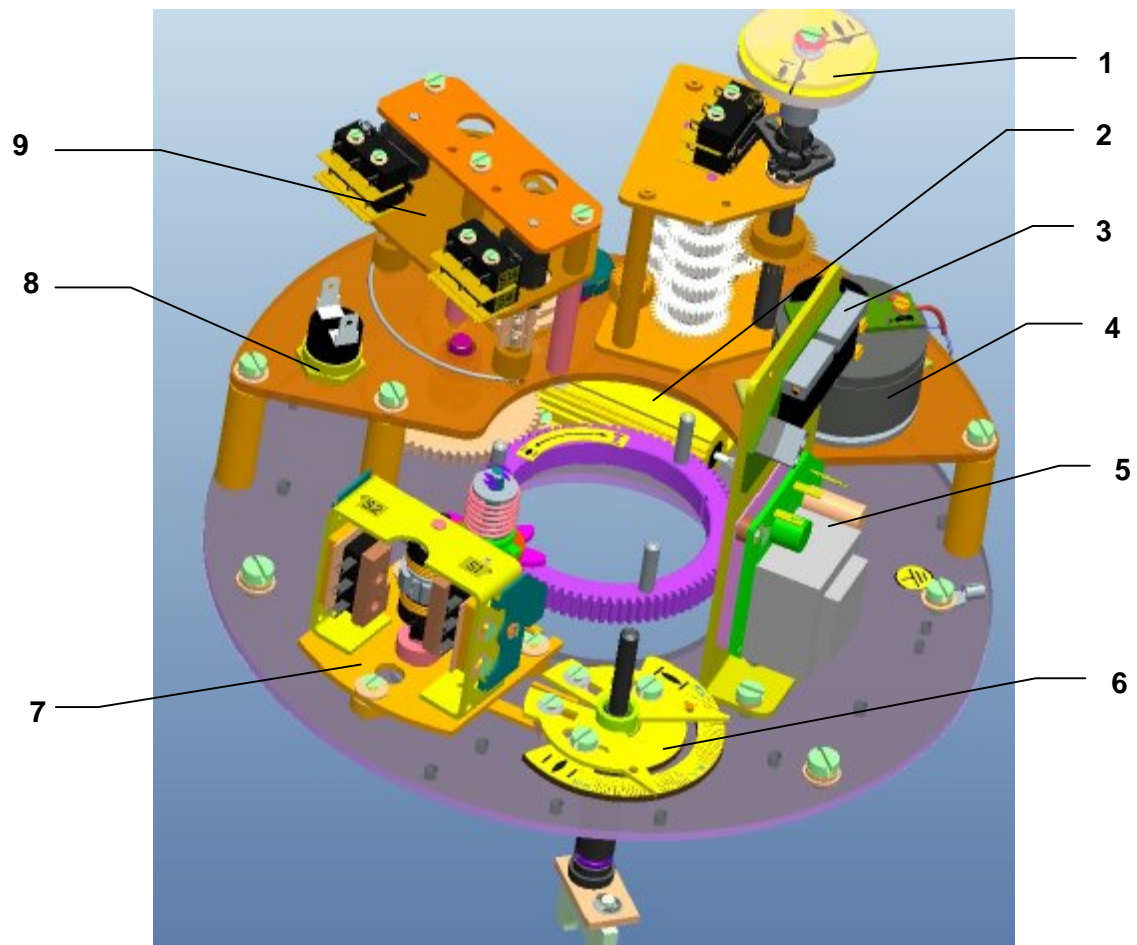

Fig.3a
The bottom part of control box closes the box of force transmission and forms carrying part of control plate (46) Fig.3a.
Position unit (9, Fig. 3a)
Heating resistor with thermal switch (2, 8, Fig. 3a)
EA is equipped with a heating resistor (2) having a built-in thermal switch (8, Fig. 3a) of a total power of about 25W. It is intended to prevent water vapour condensation and provide for the proper ambient for the proper function of built-in electric control parts of EA in the case of EA low temperatures.